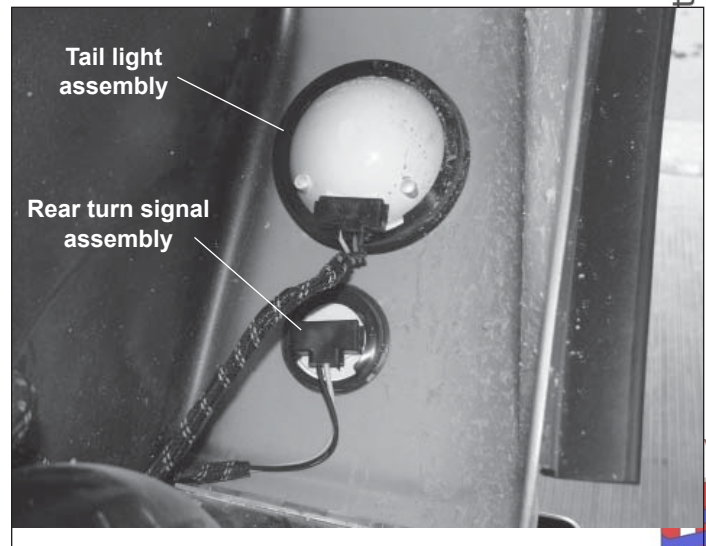

Figure 8-11. Tail Light and Turn Signal
2. Unplug wiring harness at light or turn signal (Figure 8-11).
3. Disconnect the wiring connectors from both tail lights and turn signals (Figure 8-11).